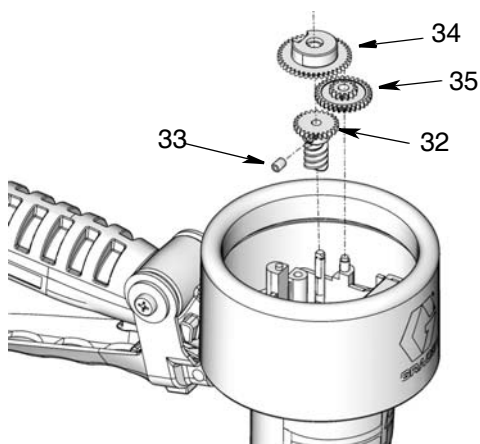

FIG. 21
2. Install the gears (32, 34, 35) as shown in FIG. 21. Use a 2 mm hex wrench to tighten the gear setscrew (33).